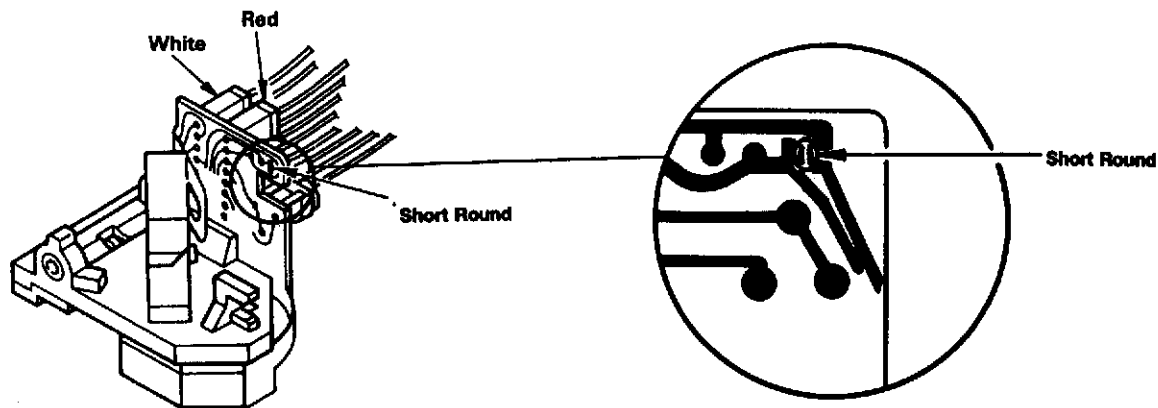

Fig. 7
6. After you connect the wire connector, desolder and remove the shorting tab (See Fig.7).